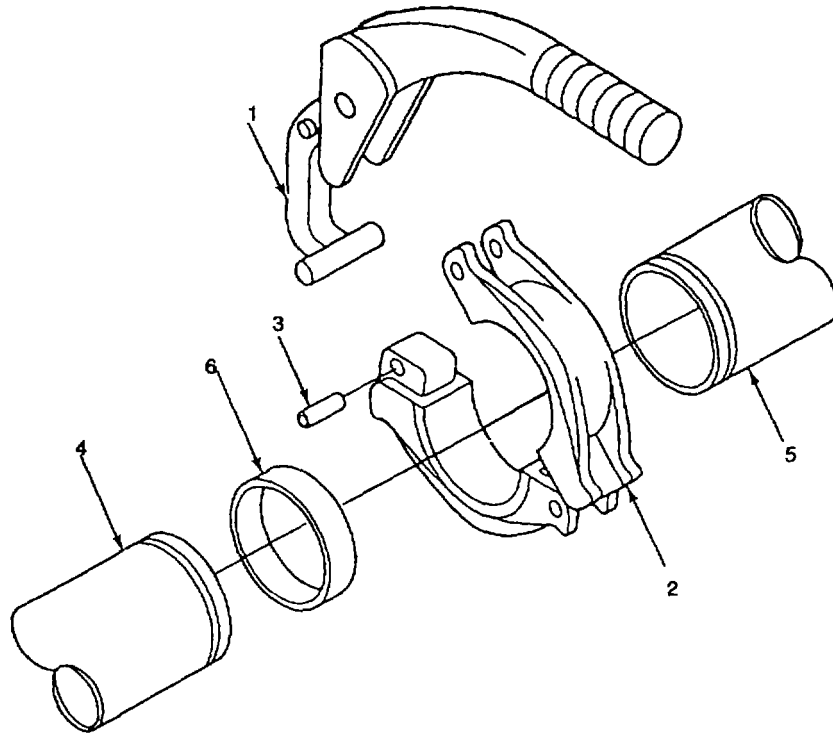

Figure 2-7. Boltless Coupling
(5) Empty hose is easily blown by strong winds, causing damage to installations and equipment. To avoid high wind problems, fill newly-laid hose with water as soon as possible. Once lead pump and first boost pump are connected by hoseline, see operating procedures and fill hoseline.
(6) During hose-laying operations, it is essential that operators at pumping stations and storage assemblies communicate with each other and with hose-laying crews. If a problem develops with the hose-laying operation, immediately notify operators who are packing hoseline. If a problem occurs when hoseline is packed, immediately notify hose-laying supervisor and other operators.
b. Boltless Coupling Installation (Figure 2-7). Follow this procedure when using a boltless coupling to connect two grooved TWDS components.
- (6) Install damping wrench (1) on boltless coupling (2) and depress coupling.
- (7) Install pin (3) to secure coupling halves together.
- (8) Release and remove clamping wrench (1).
- c. Boltless Coupling Removal (Figure 2-7). Follow this procedure when removing a boltless coupling that connects TWDS components.
- (1) Install damping wrench (1) on boltless coupling (2) and depress coupling.
- (2) Using drive pin punch (Item 3, Appendix B), drive out pin (3).
- (3) Release damping wrench (1) from boltless coupling (2).
- (4) Open up boltless coupling (2) from grooved fittings (4 and 5).
(5) Slide gasket (6) away from center position between grooved fittings (4 and 5).